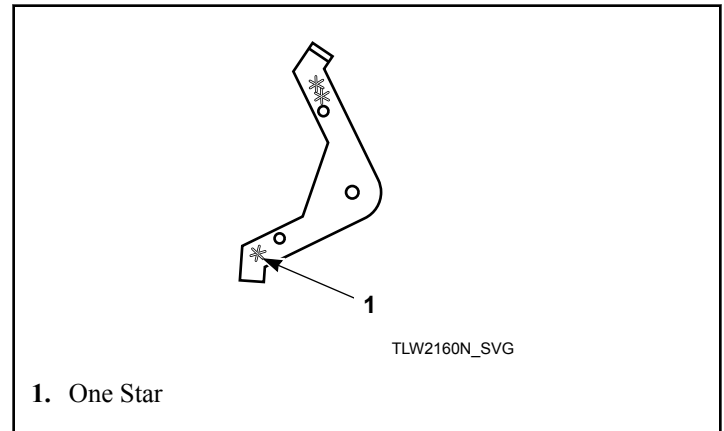

Figure 35
2. Install extension lever with arm that has one star facing down. Refer to *Figure 35*.